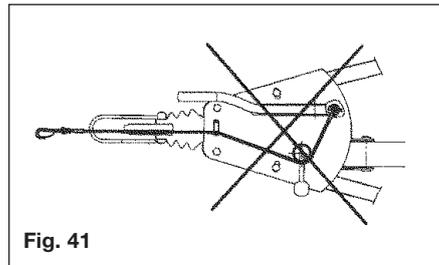

Fig. 41
2. The breakaway cable **MUST NOT** be wrapped around the jockey wheel, as this disables the emergency brake (Fig. 41).